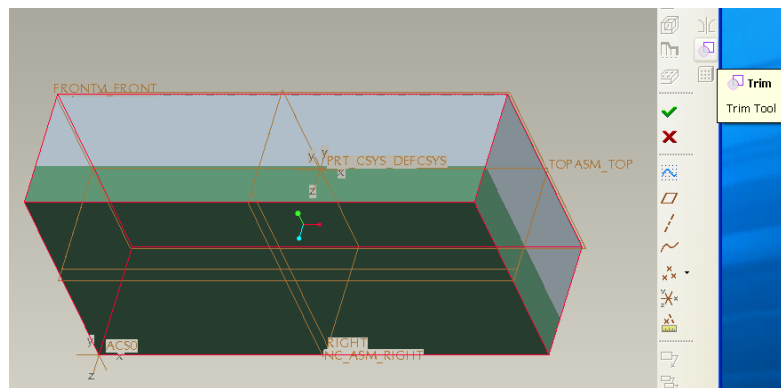

Figure 1.37
- We have sketched our entire workpiece. But we need to leave the material that represents our part. At this point Pro/E provides a Trim function that will “trim” the part from mill volume. Select **Trim** and select the part we wish to be “trimmed” out of the mill volume as shown in Figure 1.37. We have defined the volume to be removed (the workpiece minus the part).